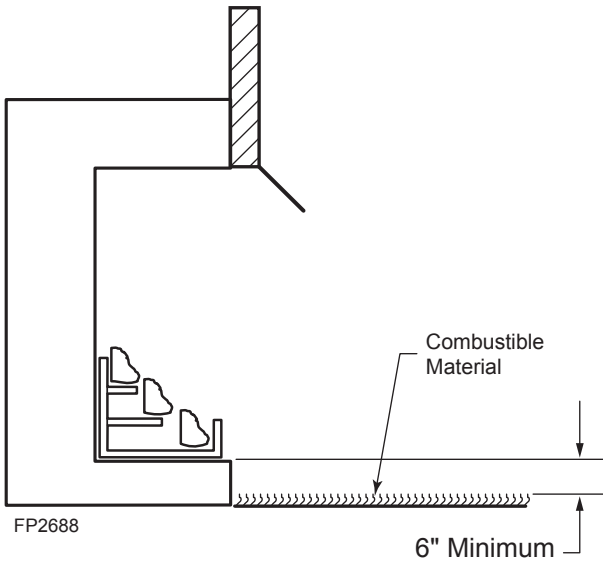

Figure 5 - Minimum Clearance above Combustible Flooring
4. **Floor clearance:** This inner chamber firebox floor must be installed at least 6" above any combustible flooring material, such as carpeting or asphalt tile, which is closer than 14" to the base of the firebox. *Figure 5*